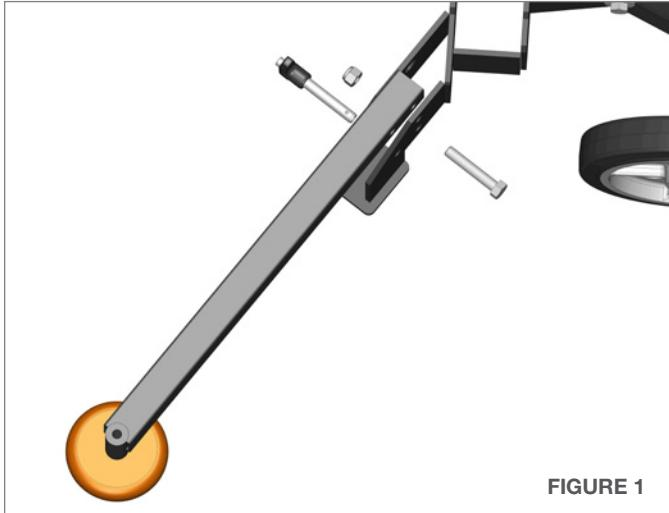

FIGURE 1
1. Mount the Long and Short Legs to the Cart as shown in **(Figure 1)**
**\*\*Verify Long and Short Legs are in the appropriate positions based on (Figure 1).**
1. Remove the 1/2" Bolts, Lock Nuts, and the Quick Release Pins from the Standard Leg Assembly and Cart. (**Figure 1**)